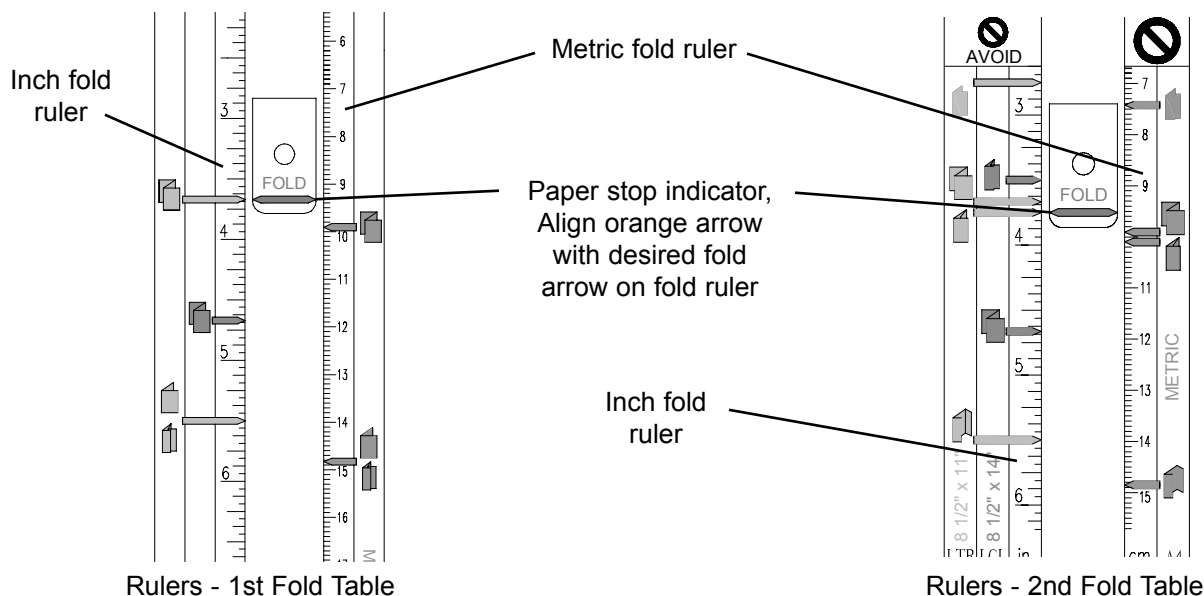

Fig. 12
rulers that represent the three common paper sizes (**Fig. 12**). The Electronic Display makes setting up folds a simple matter of choosing the paper size (**key A**) and the fold style (**key B**).
- (2) Using the fold table rulers for reference (**Fig. 12**), move the paper stop in or out with the corresponding arrow key. Please note that the arrow keys work the paper stops at two-speeds. If the key is pressed momentarily or jogged repeatedly, the paper stop moves at the slower speed. If the key is held longer, the paper stop will shift into the faster speed. This is helpful when moving the stops longer distances.